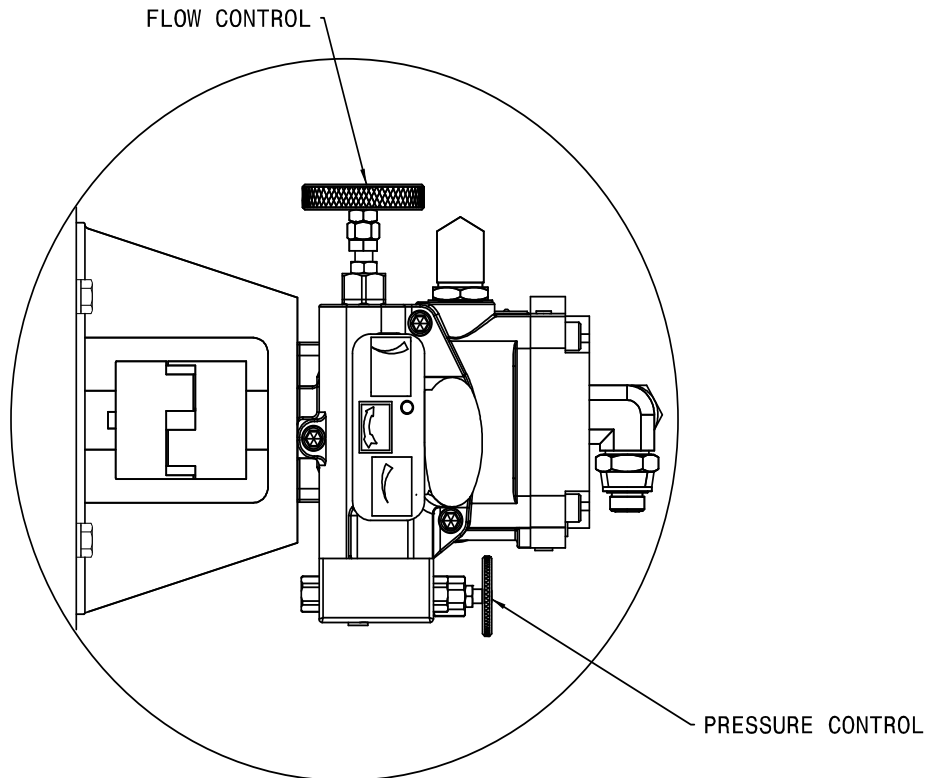

FIGURE 5.3.5 – Hydraulic Pump Controls
- Pump Control Access..... See **Figure 5.3.5 - Hydraulic Pump Controls**.